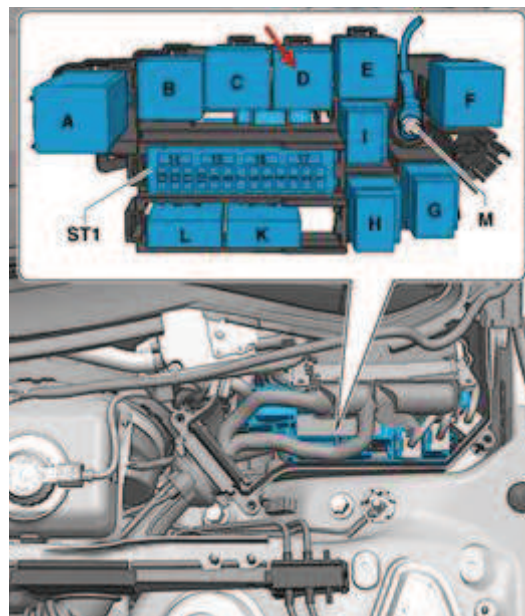

Figure 1. Location of J271 relay (D), as shown in Elsa.
2. Check Elsa for the location of the J271 relay (*Wiring diagrams* >> *Component locations* >> *Component Locations: Relays*) (Figure 1).